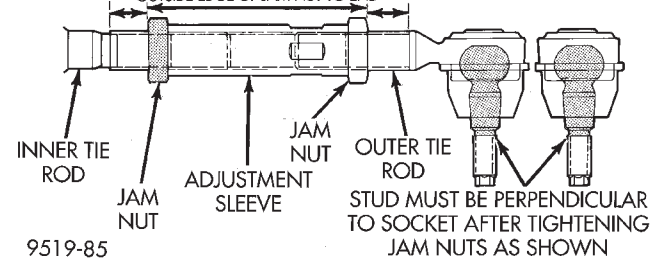

Fig. 22 Tie Rod Thread Engagement Requirements
CAUTION: When setting Toe on vehicle, the maximum dimension of exposed threads allowed on inner and outer tie rod can not exceed the distance shown in (Fig. 22). If the maximum distance is exceeded, inadequate retention of either inner or outer tie rod can result. This condition can cause separation of the inner or outer tie rod end from the adjusting sleeve. Ensure that adjustment sleeve jam nuts are torqued to required specification when Toe setting procedure is completed.
- (5) Check the front wheel TOE setting on vehicle and make required changes. **When making front wheel TOE adjustments be sure the maximum exposed thread requirements (Fig. 22) are not exceeded.**
- (6) After completion of tie rod end installation and to Toe adjustment procedure, tighten inner tie rod adjusting sleeve jam nut (Fig. 22) to a torque of 75 N·m (55 ft. lbs.). When tightening jam nut, use a 27mm crow foot and a clicker type torque wrench to obtain required torque. **To avoid losing Toe set adjustment and prevent adjusting sleeve from turning, a 23mm wrench of sufficient size to resist the tightening torque of the jam nut must be used to hold adjusting sleeve.**
- (7) Use an appropriate tool on neck area of outer tie rod to maintain the correct perpendicular orientation of the tie rod end stud within the tie rod end (Fig. 22).
- (8) Tighten the outer tie rod jam nut (Fig. 22) to a torque of 75 N·m (55 ft. lbs.). When tightening jam nut, use a 27mm crow foot and a clicker type torque wrench to obtain required torque. **To avoid losing Toe set adjustment and prevent adjusting sleeve from turning, a 23mm wrench of sufficient size to resist the tightening torque of the jam nut must be used to hold adjusting sleeve.**
- (9) Lower vehicle.